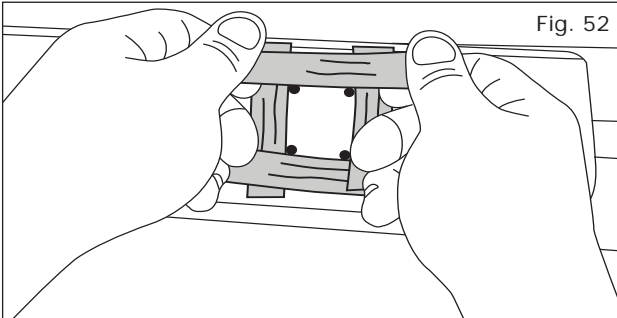

Fig. 52
- 57) Once the holes are drilled in the template, remove the template from the finisher trim. Using the (4) holes that make up the square, tape off a straight line from the outside of each hole, as shown above. (Fig. 52)